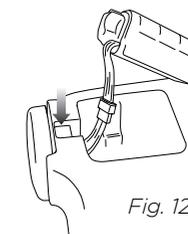

Fig. 12
- 4 Carefully lift out the battery pack. Disconnect the wire terminals by pressing on the latch and pulling off the wire terminal connectors. **(Fig. 12)**
- 5 Remove the battery pack. **(Fig. 12)**